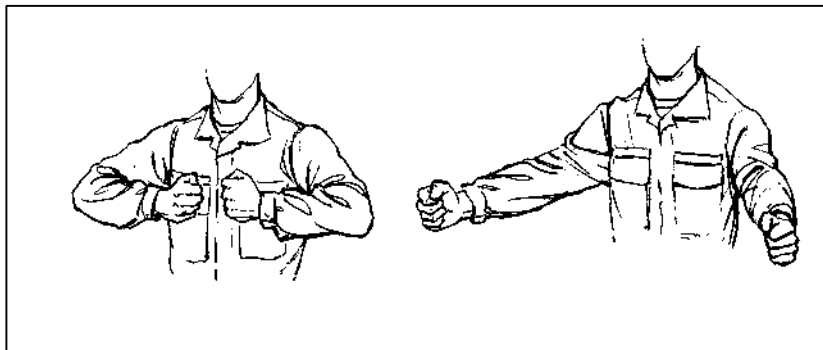

Figure 3-10. Arm-and-hand signal for THROW ROPES.
(3) **THROW ROPES** (Figure 3-10). The rappel master extends both arms to the front with elbows locked, fist clenched and index fingers extended. He points at respective rappellers, brings the forearms to an upright position and then down to the elbow-locked position.